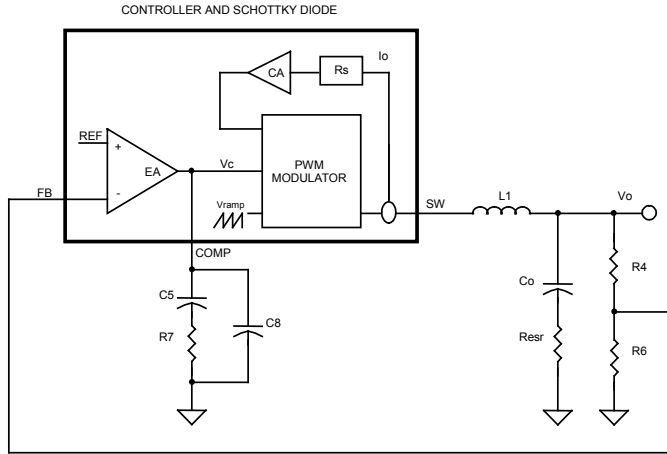

Figure 7. Block diagram of control loops
The block diagram in Figure 7 shows the control loops of a buck converter with the SC4524A. The inner loop (current loop) consists of a current sensing resistor ($R_s=6.1\text{m}\Omega$) and a current amplifier (CA) with gain ($G_{CA}=28$). The outer loop (voltage loop) consists of an error amplifier (EA), a PWM modulator, COMP, and a LC filter.
For a converter with switching frequency F_{SW} output inductance L_1 , output capacitance C_o and loading R , the control (V_c) to output (V_o) transfer function in Figure 7 is given by: